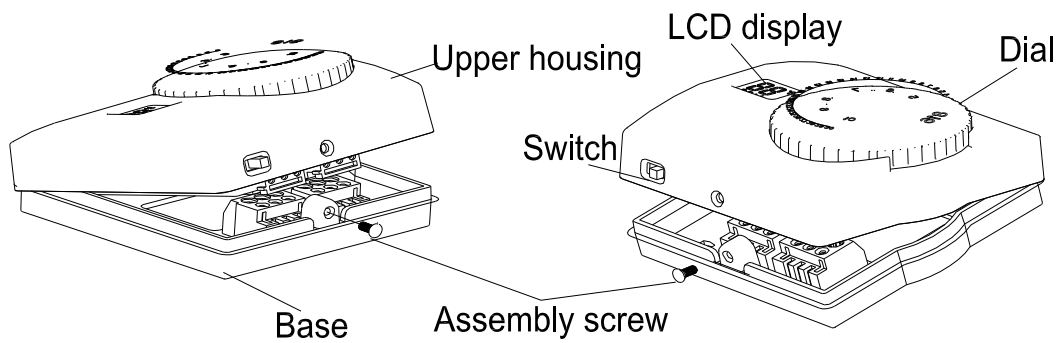

Figure 1
1. Remove assembly screws from the base of thermostat. Gently pull the upper housing straight off the base. Forcing or prying on the thermostat will cause damage to the unit. See fig.1.